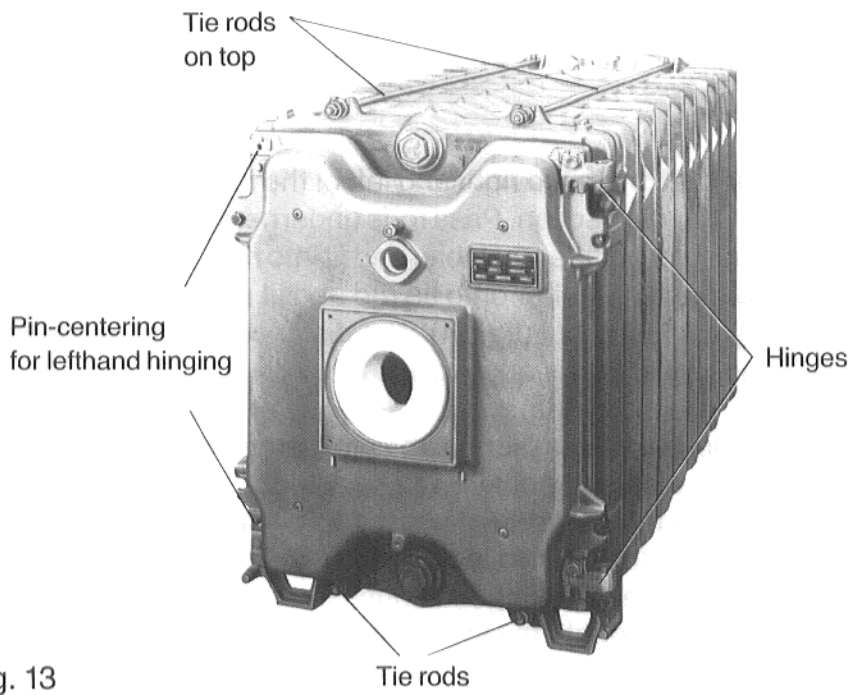
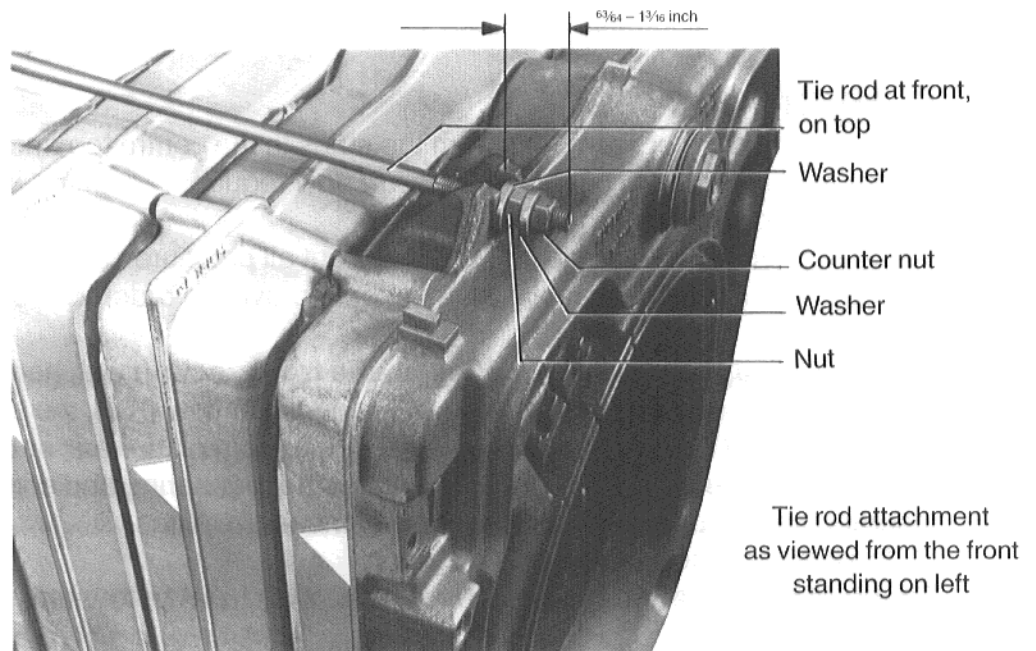
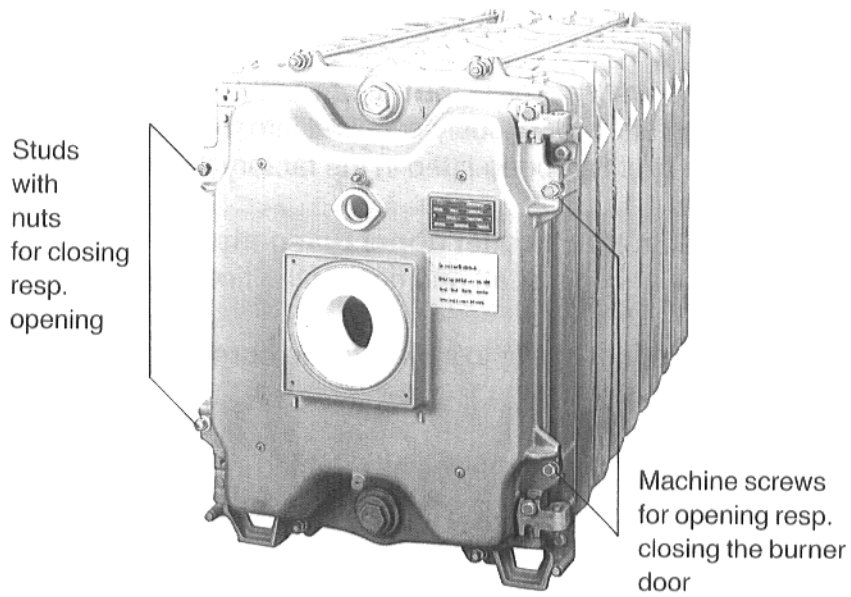
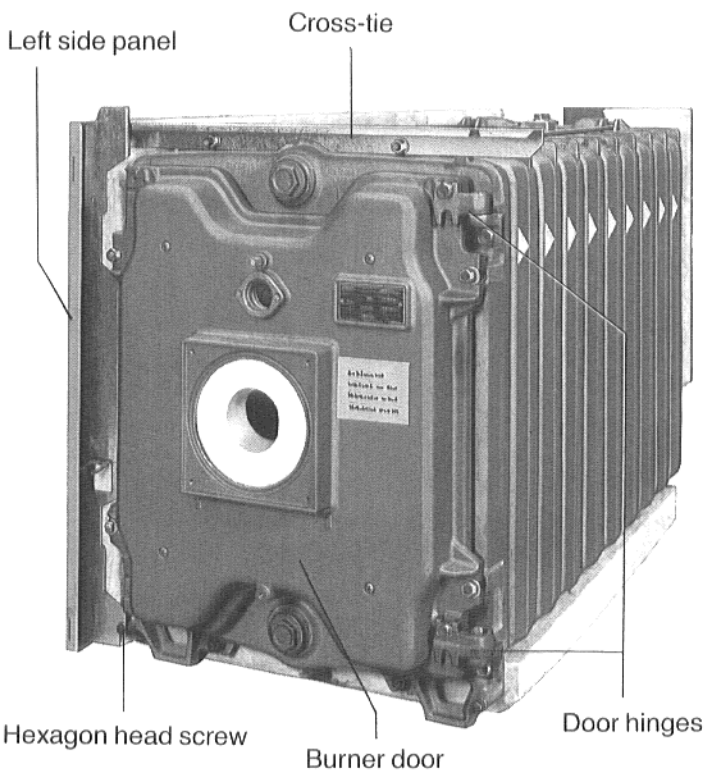

Fig. 13
Fig. 14
Fig.17
Fig. 21
Fit **tie rods (2) top and bottom** to the right and left of the boss (fig. 13). They must extend from the front to the rear section. Pass rods underneath the boiler from the front or from the rear, depending on space available, and fit into recesses next to boiler feet. On **front side of boiler** push a washer onto tie rod and fit nut, push second washer onto tie rod followed by a counter nut (fig. 14). The distance from tie rod holder on the front section to beginning of tie rod is approx. 1 – 1³/₁₆ in.
The burner door is supplied with hinges mounted on the righthand side. If the door is to be hinged on the lefthand side, the two hinges must be moved from the right to the left (fig. 13).
Important!: Hinges must be located at the attachment points of the centering projections. Screw hinge pins to front section on the righthand or lefthand side resp. (fig. 13). Fit burner door. Screw in studs opposite hinges. Fit nuts and tighten lightly. Screw in machine nuts on the side of the hinges. **Screws and studs must be tightened evenly.**
When opening the burner door undo only machine screws or nuts shown in fig. 17.
For easy assembly of cross-tie open burner door (fig. 21). See page 18, fig. 17, for opening of burner door.
Push longitudinal slots on **upper cross-tie (fig. 21)** over the tie rod and screw down using counter nuts (see fig. 14). Using two studs with nuts and two SW 19 hexagon head screws, screw down burner door on the left and right hand side. Tighten screws evenly (fig. 21). The studs should be inserted opposite the hinges.
At the rear, hook the top of the **left side panel** into the metal of the rear panel casing, and at the front, hook the bottom over the hexagon head screws. Using two self-tapping screws secure the panel to the boiler rear panel (fig. 21).